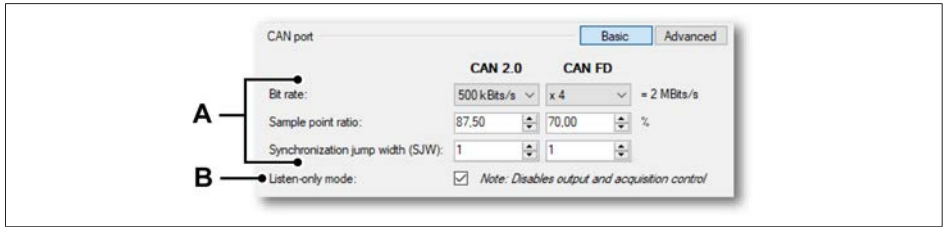

Fig. 12.16 CAN port settings
- A Select the CAN port setup option to open the CAN port settings (see Fig. 12.16)